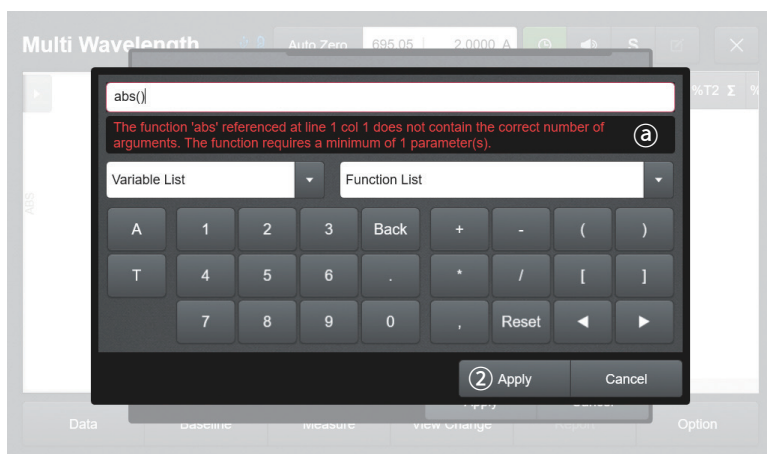

Fig. 3.10
1. Select the expression ① **Add** from the list on the settings screen.
2. [Fig. 3.10] Enter the expression using the numeric keyboard. * See 3-2-3, "Function list" on the next page.
3. Enter the expression and press ② **Apply** to finish.